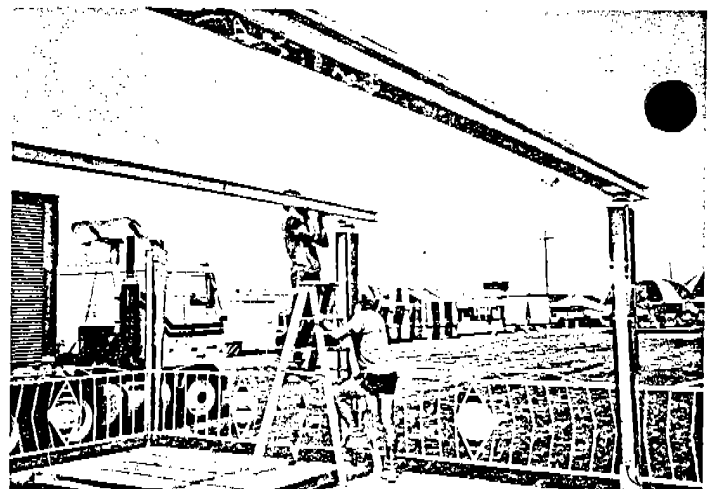

FIGURE 10
3. **INSTALLING RAFTERS:** Beginning on A-side with center large rafter, install in center of ride. Then install small rafters on either side of center rafter. (See Figure 10). Install catwalks (See Instruction #4) at this time before repeating procedure on "B" side.